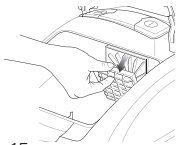

Fig. 15
- 2 Hold the filter frame and pull it out to remove. (Fig. 15)